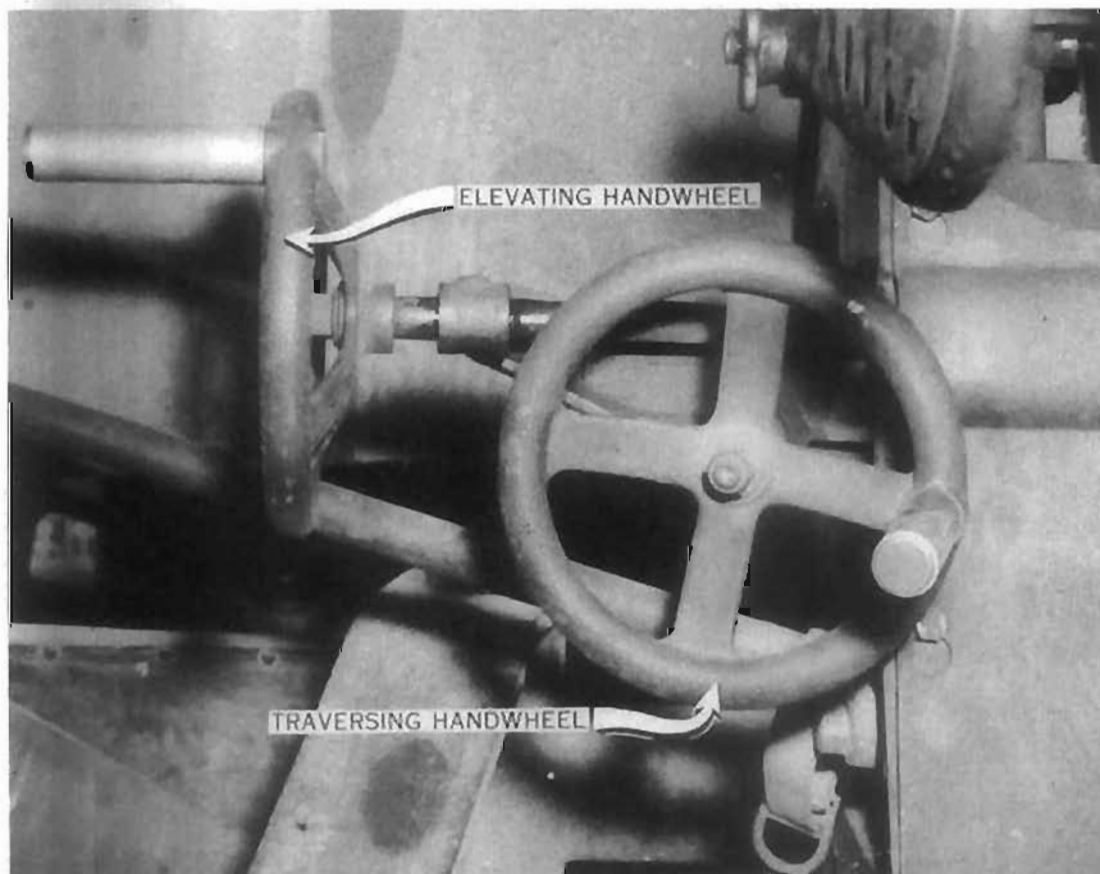

Figure 5
C. Elevating and traversing mechanism (fig. 5).